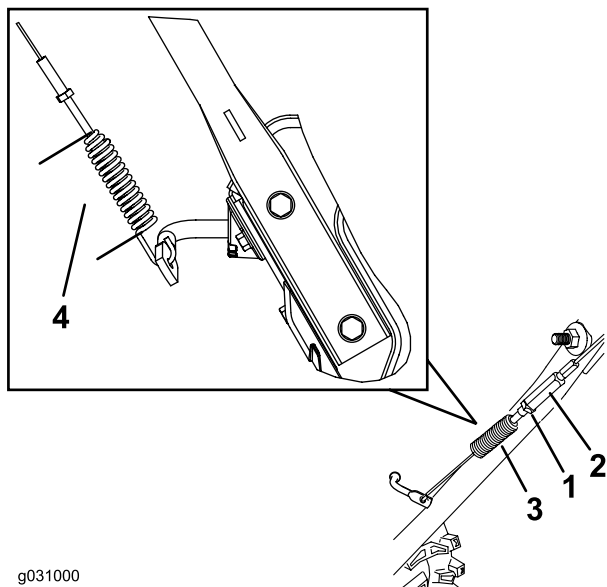

Figure 29
3. Loosen or tighten the turnbuckle to adjust the spring length to 7 cm (2-3/4 inches) as shown in Figure 29.
4. Tighten the jam nut (Figure 29), ensuring that there is slight tension on the cable.